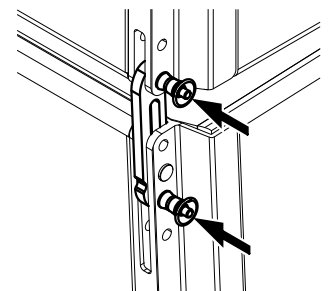

Fig. 15: SUB to SUB, 2.5° splay, blocked
- d. SUB to SUB with 2.5° splay (blocked ⇒ Fig. 15) between the cabinets.